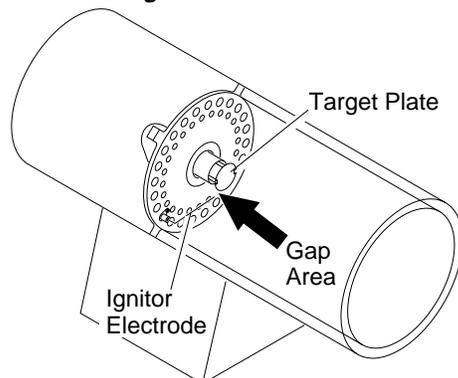

Figure 16 - Clearance between Ignitor Electrode and Target Plate
7. Set gap between ignitor electrode and target plate to .17" (see Figure 16).